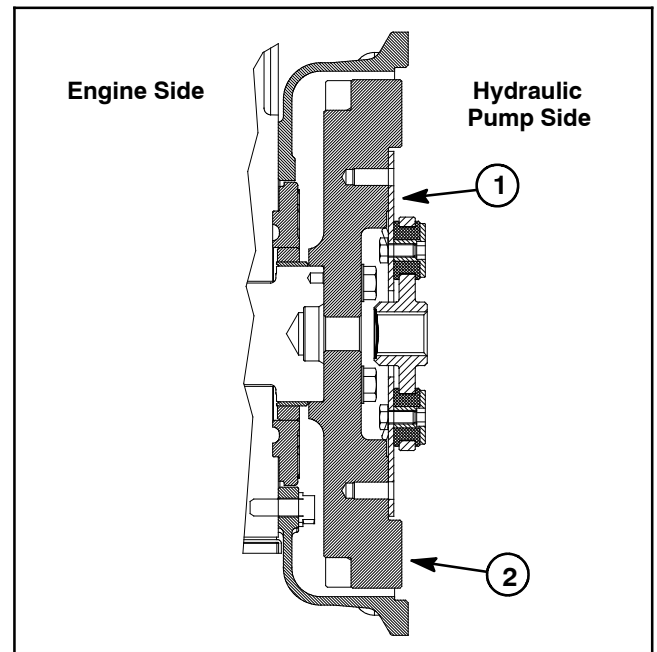

Figure 22
1. Position spring coupler to engine flywheel and align mounting holes. Make sure that coupling hub is away from engine flywheel (Fig. 22).
2. Secure coupler to flywheel with eight (8) cap screws and washers. Torque cap screws in a crossing pattern from **29 to 33 ft-lb (40 to 44 N-m)**.
3. Position flywheel plate to engine. Secure flywheel plate with eight (8) cap screws (item 1) and washers using a crossing pattern tightening procedure. Torque cap screws in a crossing pattern from **28 to 32 ft-lb (38 to 43 N-m)**.